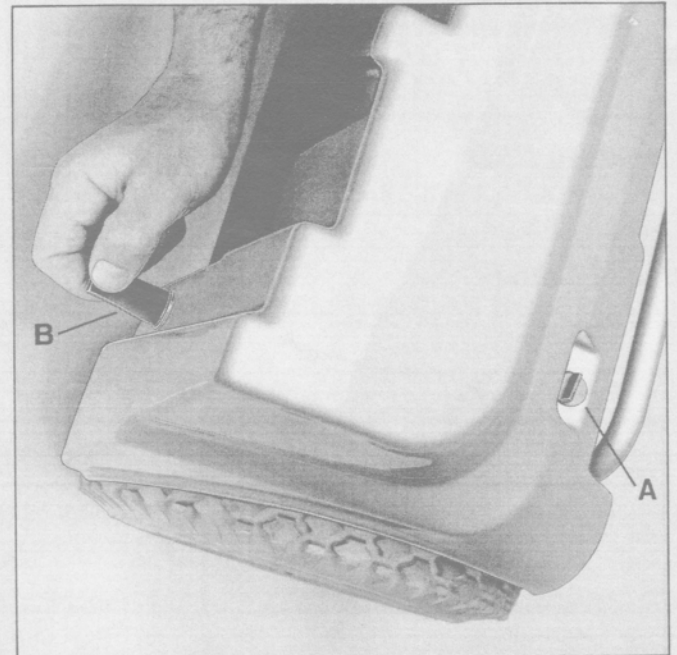

Fig. 17
Inspect motor brushes (see figure 17). Inspect wiring for chafing or worn insulation. Clean battery terminals and protect with petroleum jelly. Check stabiliser wheels for wear.
- 3) Twist rear catches A and lift front catches B (Figure 17).